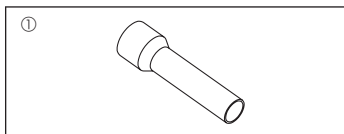

Fig. 1-1
1.6. Accessories of outdoor unit (Fig. 1-1) (SW160, 200)